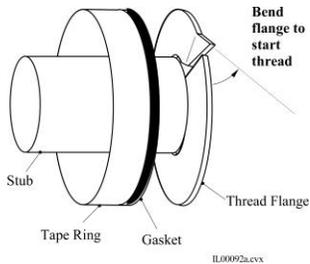

Figure 1 Spin-in Takeoff (for 1" Fiberglass Duct)
3. Bend the starting edge of the spin-in (UPC-23B) takeoff thread flange as shown in Fig. 1.